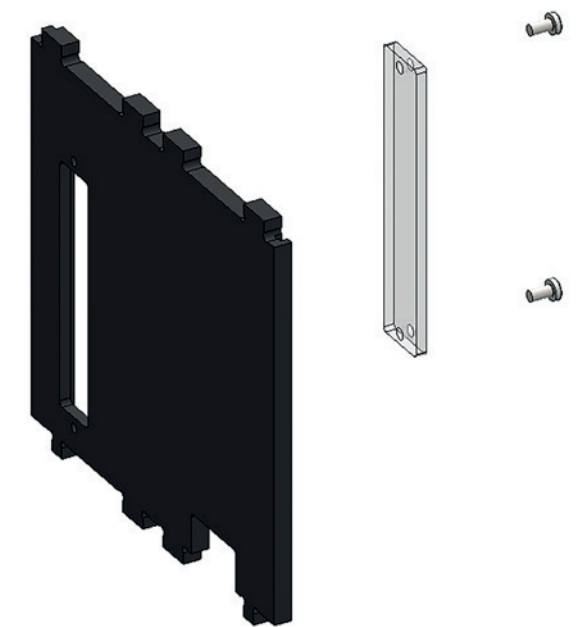

Fig. 58: Securing a transparent panel to the side wall
4) Secure a transparent panel to the side wall using two M3x6 cylindrical-head screws (Fig. 58):